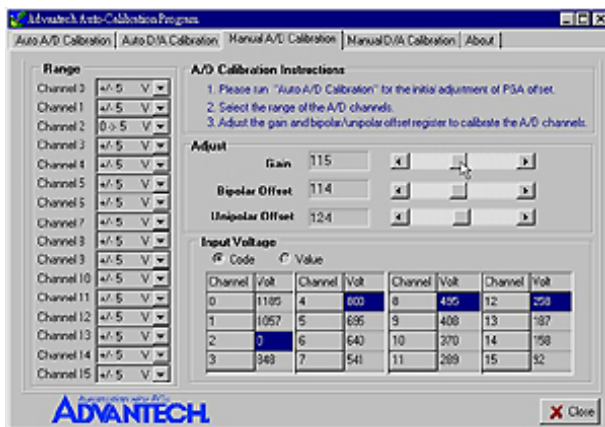

Figure 6-14: Adjusting registers
Step 2: According to the difference between reference voltage and receiving data in PCI-1712/1712L, adjust the gain, bipolar offset and unipolar offset registers (Figure 6-14)